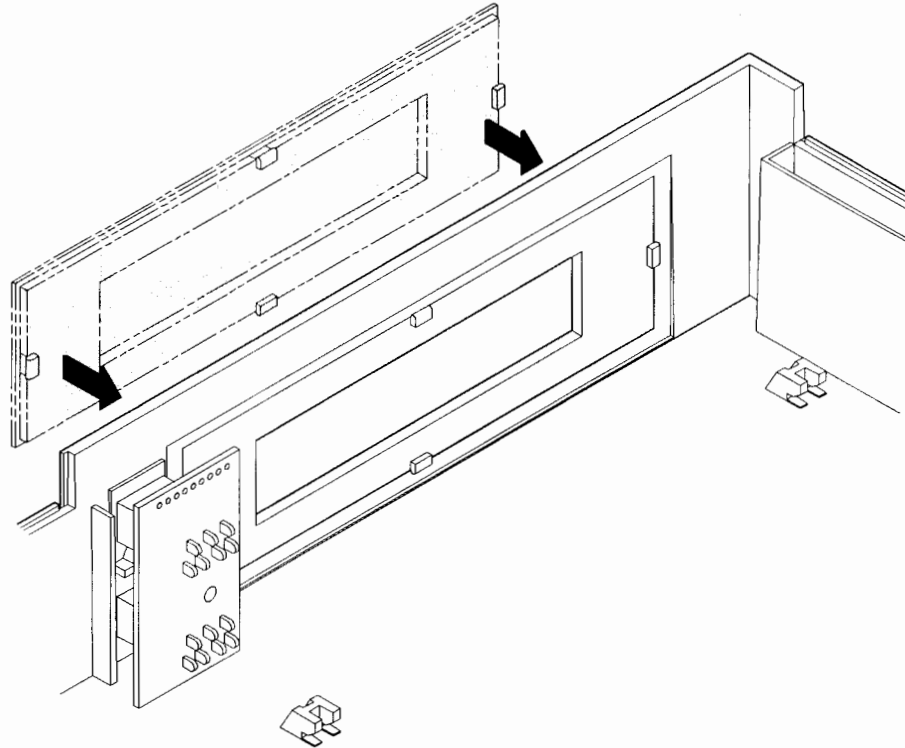

Figure B-9. Installing the Floppy Bezel Assembly
5. Install the floppy drive bezel assembly that came in the kit, as shown in Figure B-9. Make sure that you orient the front of the floppy drive bezel so that the indentation on the front of the bezel corresponds to the eject button on the floppy drive.